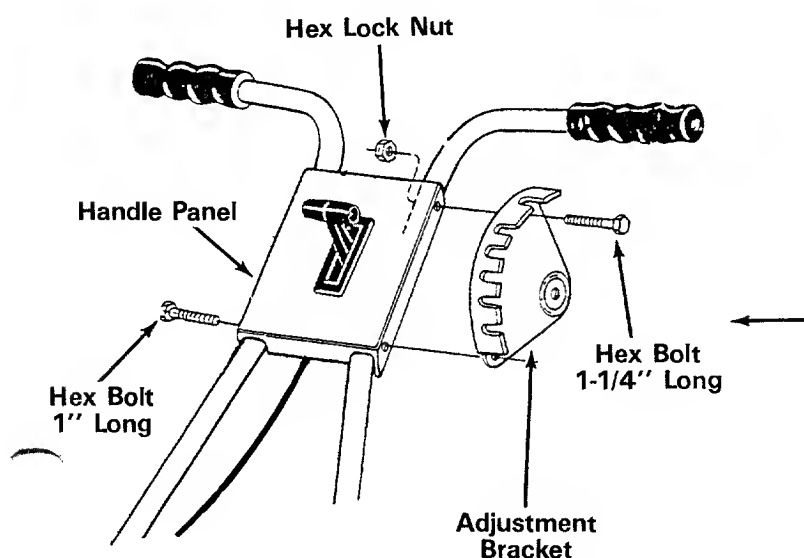

FIGURE 8
4. Place the handle panel over the upper handles and line up the holes. See figure 8.
6. Secure the adjustment bracket to the left hand side of handle panel with hex bolts 1-1/4" long and hex lock nuts. See figure 8.